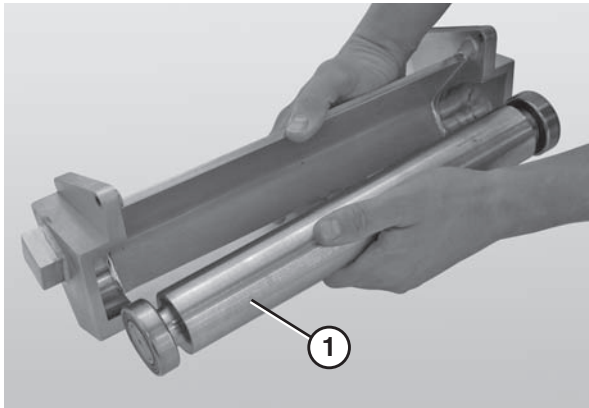

Figure 73
6. Remove the nose bar return spindle (**Figure 73, item 1**).